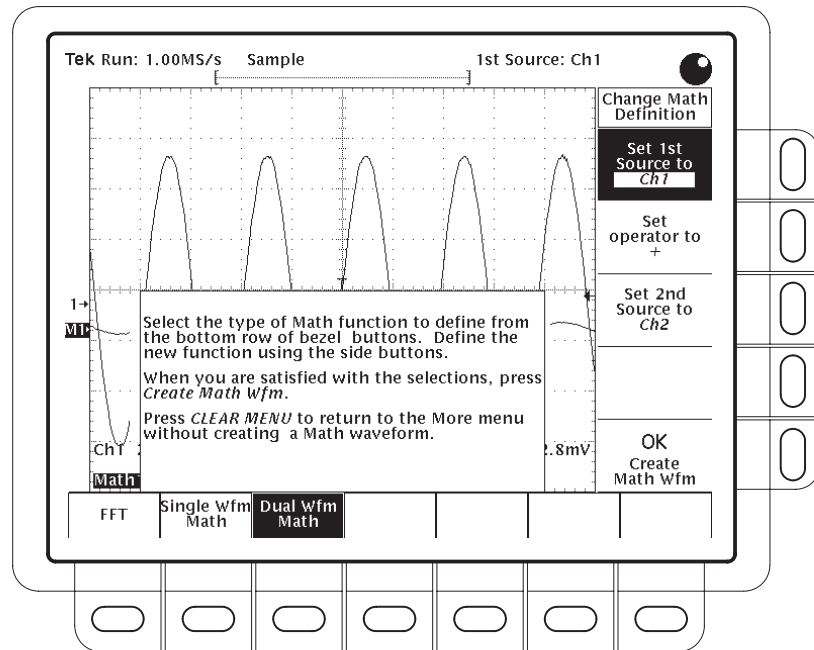

Figure 3-78: Dual Waveform Math Menus
1. Press **MORE** → **Math1**, **Math2**, or **Math3** (main) → **Change Math waveform definition** (side) → **Dual Wfm Math** (main) (see Figure 3-78).